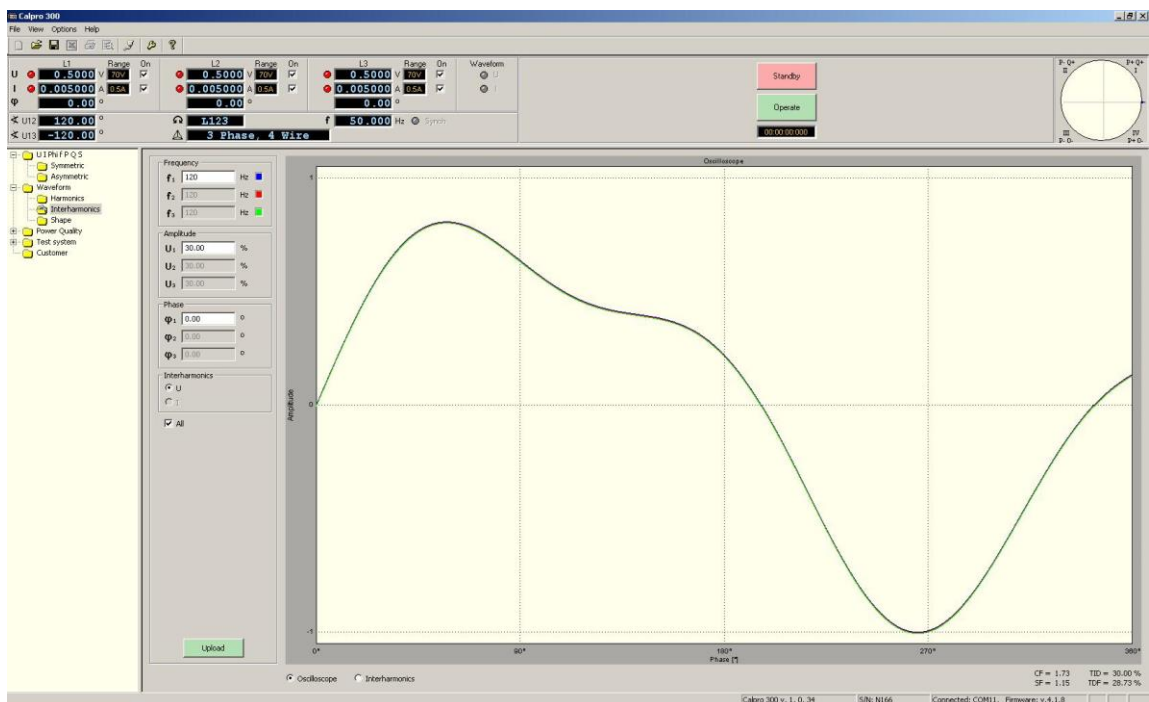

Fig.7. Interharmonics window after setting the frequency and phase of interharmonic.
- set the frequency and phase of the interharmonic, the example is presented on Fig.7,